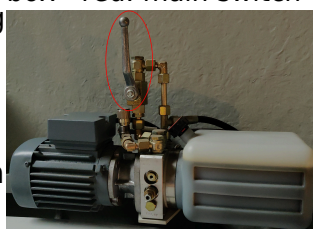

Fig. 2: Hatch hydraulics - red: lever for switching it off
- **Move the lever** (Fig. 2) on the top of the hatch hydraulics (located to the right of the dome slit) **to the left and in a horizontal position**